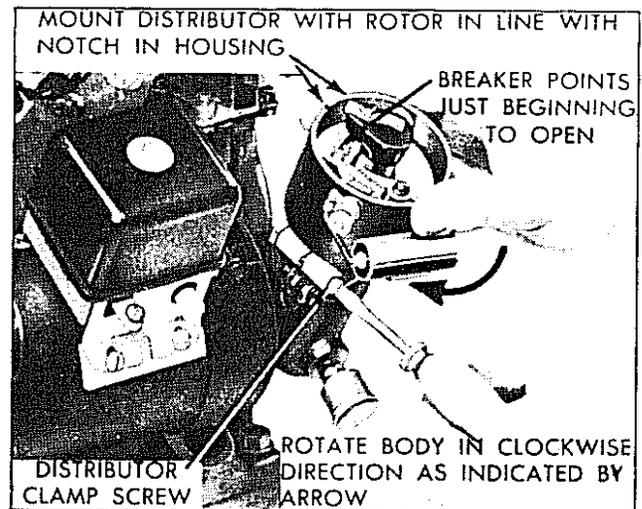

FIG. 14 DISTRIBUTOR TIMING
4. With the *distributor clamp screw* loose, see Fig. 14, turn the distributor body slightly in a counter-clockwise direction until the breaker points are firmly closed. Then turn the distributor body in a clockwise direction until the *breaker points* are just beginning to open. At this point a slight resistance can be felt as the breaker point cam strikes the breaker point arm.